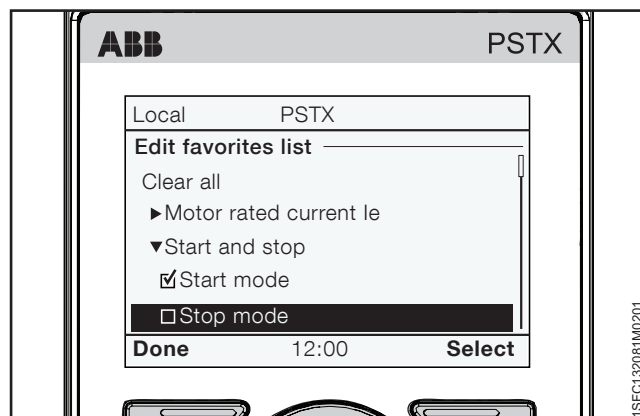

Figure 6.25
3. Push  "Select" to select parameters. A check mark shows in front of the selected parameter. Push  "Unselect" to unselect the parameter. Push  "Done" to save and exit. See **Figure 6.25**.